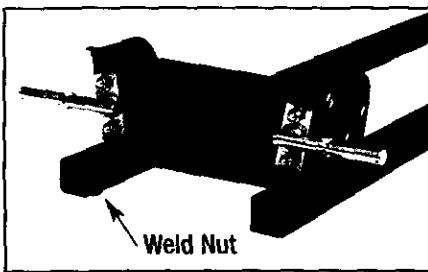

Figure 2
2. Place top frame upside down on your workbench or work surface. Position so that the nuts welded to the top of the frame tubes will be positioned in the lower right and upper left when the frame is turned over for assembly. Figure 2.
3. Attach the wheel axle brackets to the left end of the frame. Note you will have a right and left bracket. When the mounting holes are aligned, the correct bracket will position the axle parallel to the work surface. Secure with 1/4"- 20 x 5/8" hex bolts from the inside of the frame, 1/4"- 20 Nylok nuts on the outside of the frame. Figure 2.